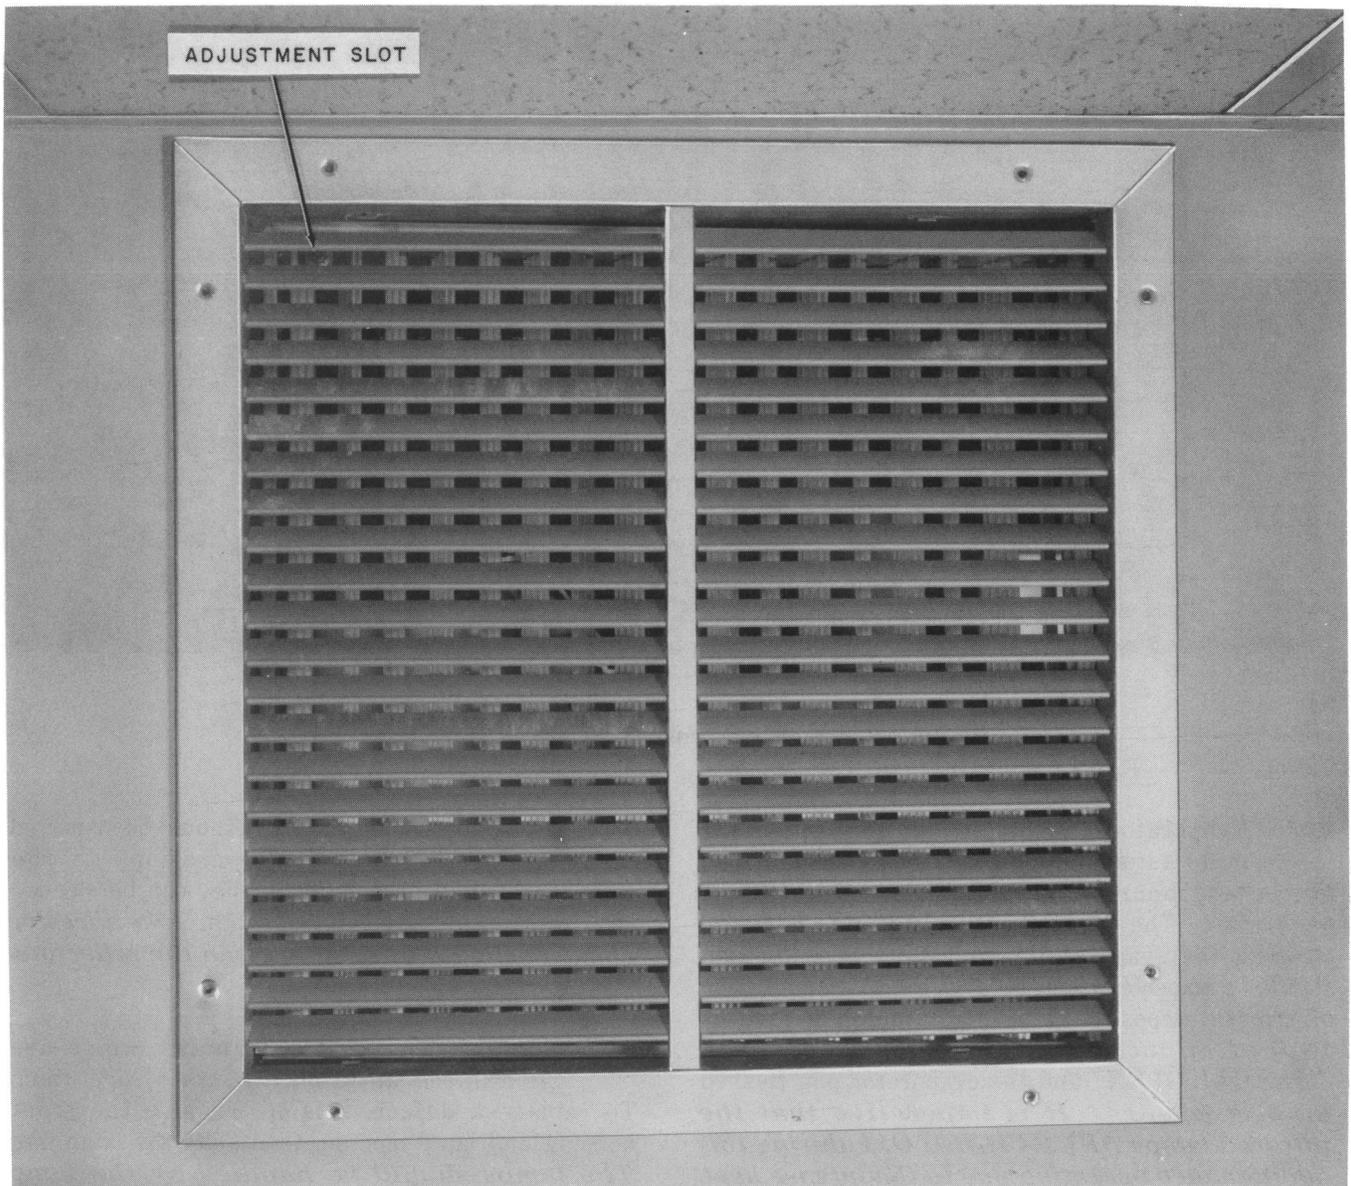

Fig. 25—Vapotron Air Intake Grille
5.04 The air intake grille (Fig. 25), located on the left side of the humidifier, should be